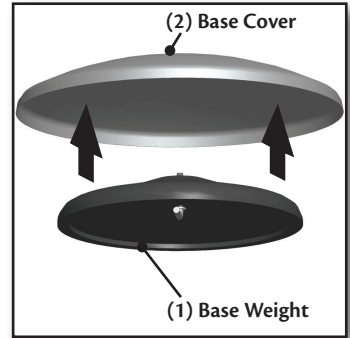

Figure 3.
1. Insert the Weight(1) into the Base Cover(2). Figure 3.
3. Turn the Base on it's side and turn the handle of the Screw(4) on the bottom of the Weight until secure. Figure 3.